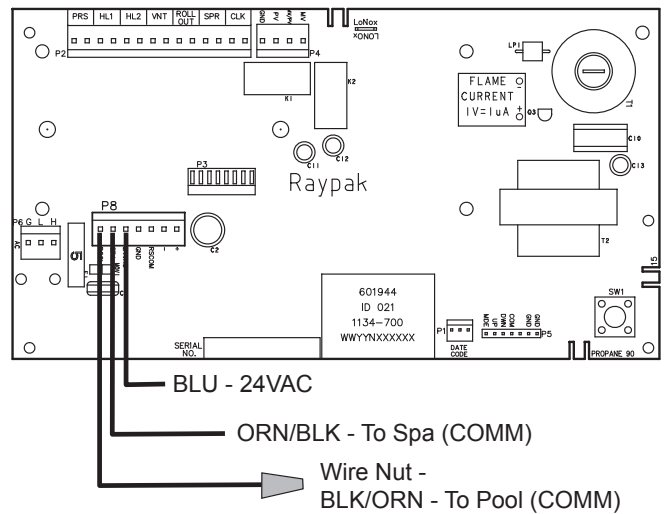

Figure 49. 2-Wire Remote Harness Installation on the P8 Connector of the Board
5. Install the "Remote Interface Harness" to the P8 connector and turn power ON to the heater. See **Figure 49**.